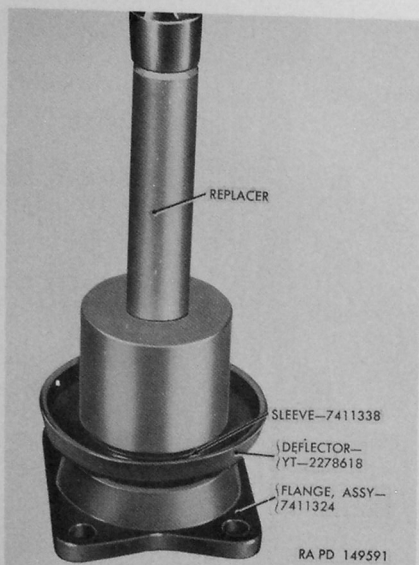

Figure 61. Use of replacer 41-R-2395-535 to install oil seal sleeve on input shaft flange.
- (c) Install new oil seal sleeve on flange, using replacer 41-R-2395-535 as illustrated in figure 61 to drive sleeve flange firmly against shoulder at input shaft flange assembly.